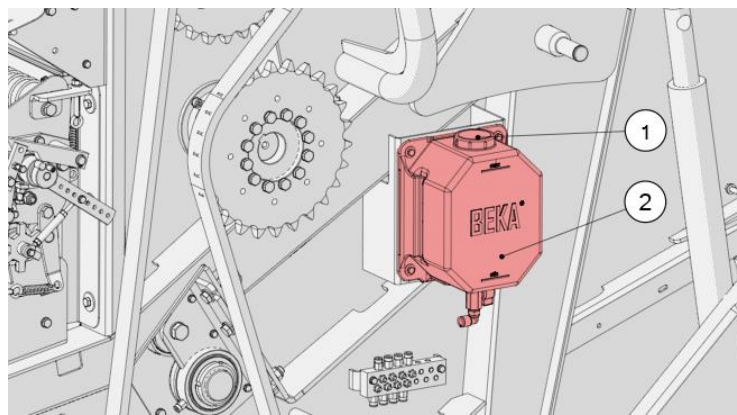

Figure 66. The tank of the automatic chain lubrication system
- Clean the machine around the tank (2) to prevent dirt from penetrating inside the tank (Figure 66);
- Unscrew the plug (1);
- Screw in the plug (1).